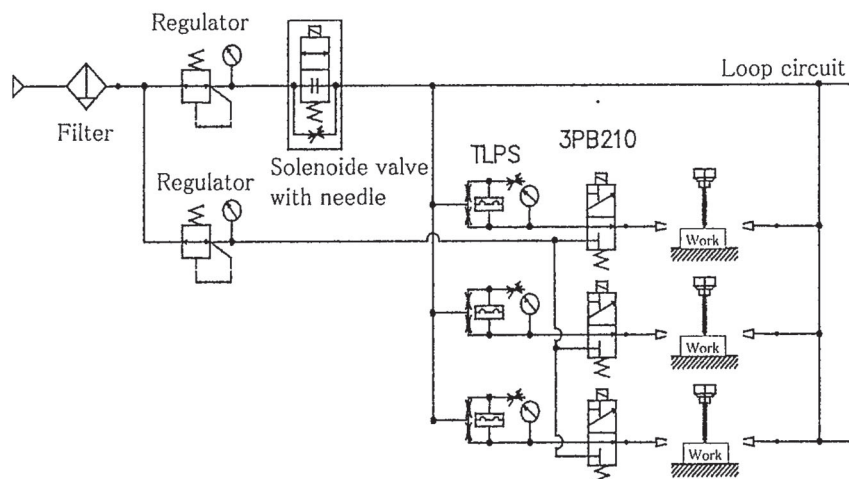

Figure 2 Using 3-way valve for blow
- 7) Cutting or grinder chips may block the nozzle. An increase in the supply pressure will not be able to blow the chips off because the internal orifice will choke the flow. To enable the blow-off, install a 3-way valve to the detection port side as in Fig. 2. The orifice of the 3-way valve has to be 2.5 mm or larger in diameter.
- 8) The piping used should be 4 mm in inside diameter and 6 mm in outside diameter. Also, where a 3-, 4- or 5-way valve is used, make arrangements so that each nozzle injection amount is as uniform as possible. The branching method is as shown in Fig. 2 above: form the loop circuit with this piping 8 mm in outside diameter and 6 mm in inside diameter.